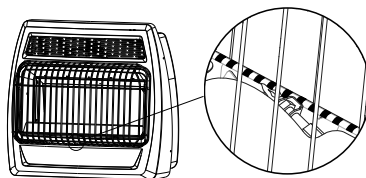

Fig. 24
6. With control knob depressed, push down on the ignitor button until the pilot lights. The pilot is visible centered below the plaques, behind the front grill. (See Fig. 24 on page 19)
7. Keep control depressed for (30) seconds after pilot lights. Release control knob.
6. With control knob depressed, push down on the ignitor button until the pilot lights. The pilot is visible centered below the plaques, behind the front grill. (See Fig. 24)